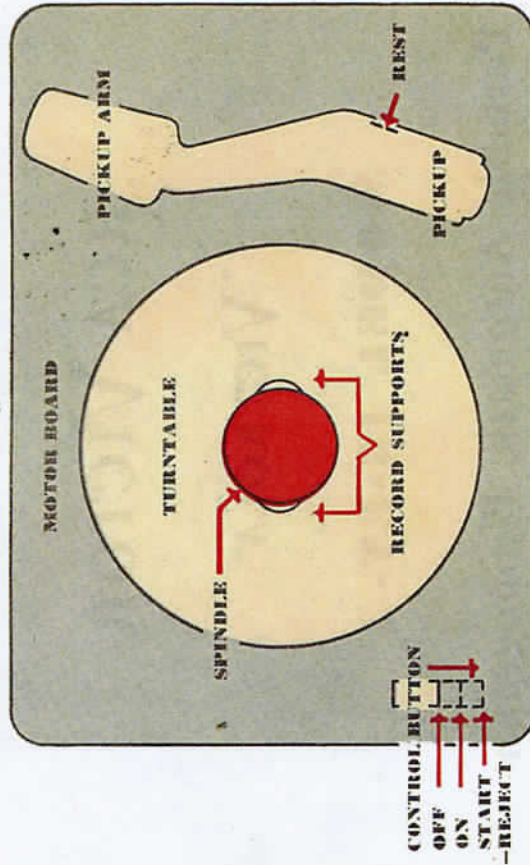

FIGURE 1—TOP VIEW
- 2 **Starting**—The slide control at the left end of the motorboard has three positions—"OFF", "ON" and "REJECT" as indicated in Figure 1. To start, simply move control to extreme forward position and release. This permits control to spring back to "ON", or mid-position. Pickup releases lifts, swings in and playing.
- 3 **Volume**—Regulate the volume with the control on the shelf towards the right-front of the cabinet, Figure 1. Turning clockwise increases volume.